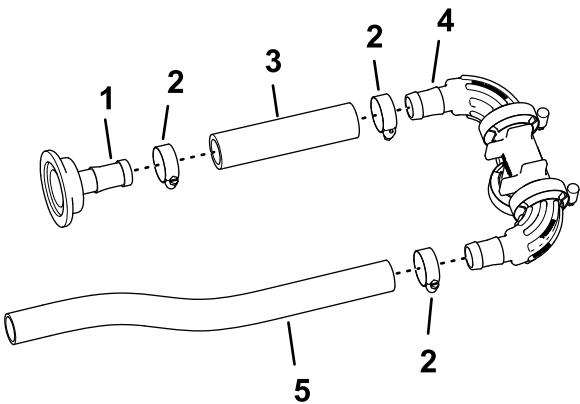

Figure 88
2. Assemble the other end of the hose (1 x 5-3/4 inches) onto the barbed fitting of the manifold with a hose clamp as shown in Figure 88, and tighten the hose clamp by hand.
3. Assemble the hose (1 x 16 inches) onto the other barbed fitting of the manifold with a hose clamp, and tighten the clamp by hand (Figure 88).
1. Assemble hose (1 x 5-3/4 inches) on to the straight hose barb (1 x 2 inches) with a hose clamp (3/4 to 1-1/2 inches), and tighten the clamp by hand (Figure 88).